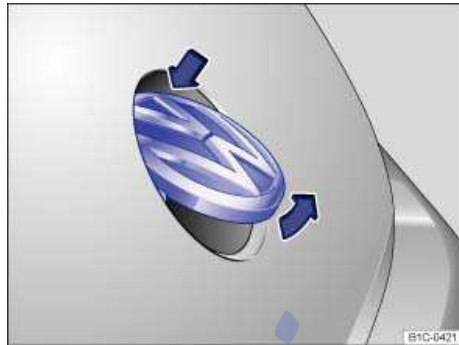

Fig. 30 Opening rear hatch from the outside.
- Using your thumb, press the top of the Volkswagen emblem ⇒ fig. 30 and move the top of the emblem down. Grasp the bottom part of the emblem and pull to lift the rear hatch.